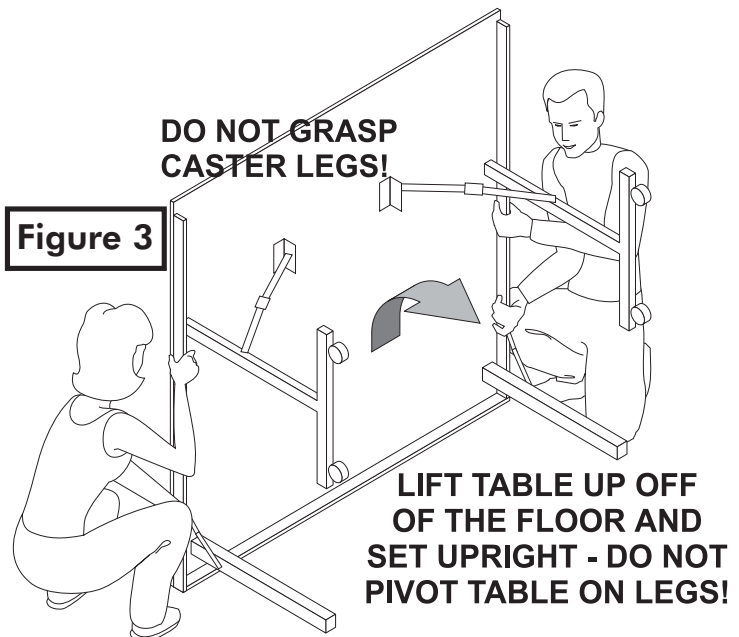

Figure 3
3. Grasp the table half between the caster legs and the corner legs only! DO NOT GRASP THE TABLE HALF ABOVE THE CASTER LEGS, OR THE CASTER LEGS THEMSELVES! SERIOUS PERSONAL INJURY COULD RESULT! See Figure 3.